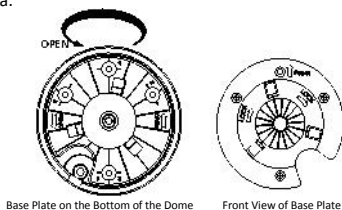
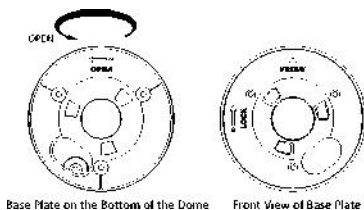

Figure 2-21 Base Plate for IPC574-PTZ PTZ Camera
Figure 2-22 Base Plate for IPC574-PTZ PTZ Camera
1. Rotate the base plate counterclockwise to separate it from the PTZ camera, as shown in Figure 2-21 and Figure 2-22.